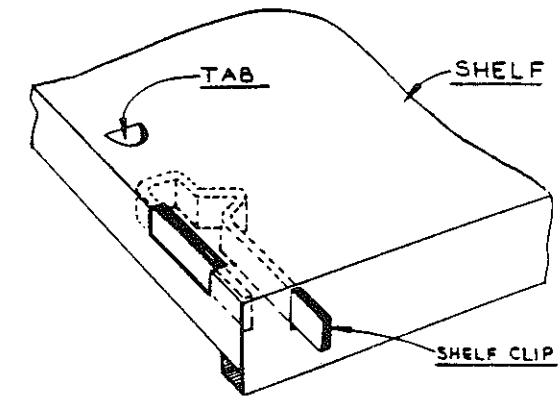

FIG. 10
- Fig. 6. OPEN DOORS AND INSTALL INTERMEDIATE SHELVES. SEE Fig. 10. HOOK REAR FLANGE OF SHELF INTO LOUVERS ON BACK PANEL, PIVOT FRONT OF SHELF DOWNWARD UNTIL LEVEL, AND SNAP SHELF CLIPS THRU SLOTS IN END PANEL AT FRONT CORNERS.
4. INSTALL SHELF CLIP INTO CORNER OF HALF SHELVES AND BEND TABS DOWNWARD. SEE FIG. 10. INSTALL HALF SHELVES INTO CABINET WITH REAR FLANGE IN LOUVER AT BACK AND SIDE FLANGE IN LOUVERS ON SIDE OF CENTER PARTITION. SNAP SHELF CLIP INTO SLOTS OF CABINET END PANEL AND DOOR FRAME. SEE FIGS. 10 & 11.